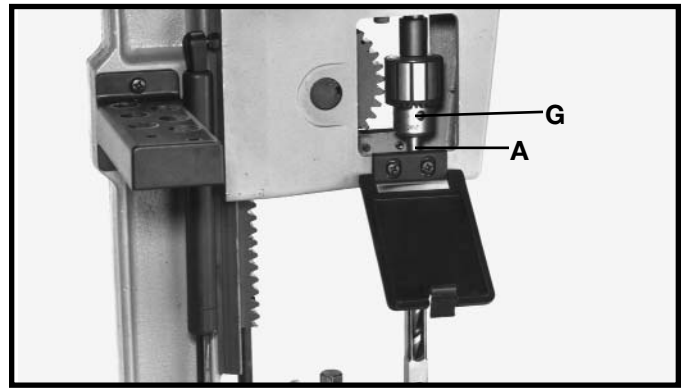

Fig. 23
4. Push bit (A) Fig. 23, up through chisel and into chuck (G) as far as it will go, and lock bit in chuck using chuck key supplied.